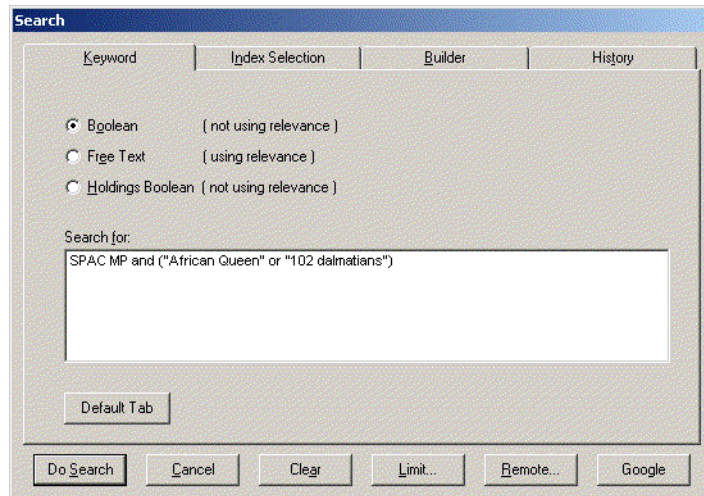
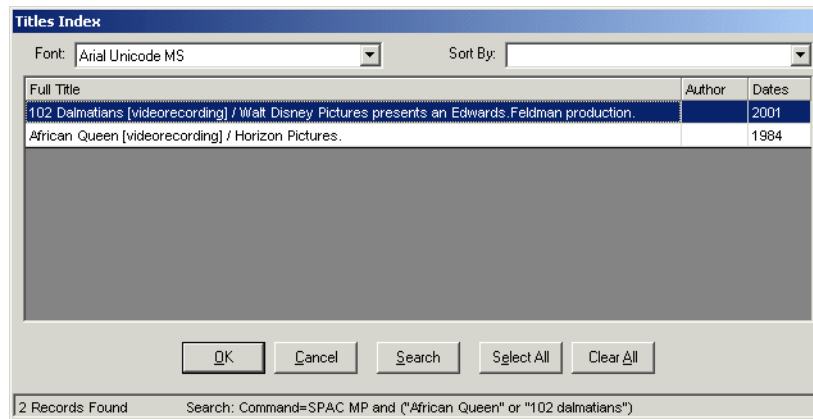

Figure 2-66. MFHD-Bibliographic Combined Keyword Search - command line example
Figure 2-67. Results of MFHD-Bibliographic Combined Keyword Search
Example: The following is an example of a command-line search for “102 Dalmatians” or “African Queen” in the motion picture collection where SPAC is the Voyager code for the indexed 901 Ꞥa holdings field and MP is the code representing the motion picture collection stored in the 901 Ꞥa . See Figure 2-66 and Figure 2-67.
The SPAC code may be used in a command-line search to identify the index to be searched. See Figure 2-66.
- And, or, or not boolean logic may be used to separate each index and term/phrase combination in a command line search as in Figure 2-66